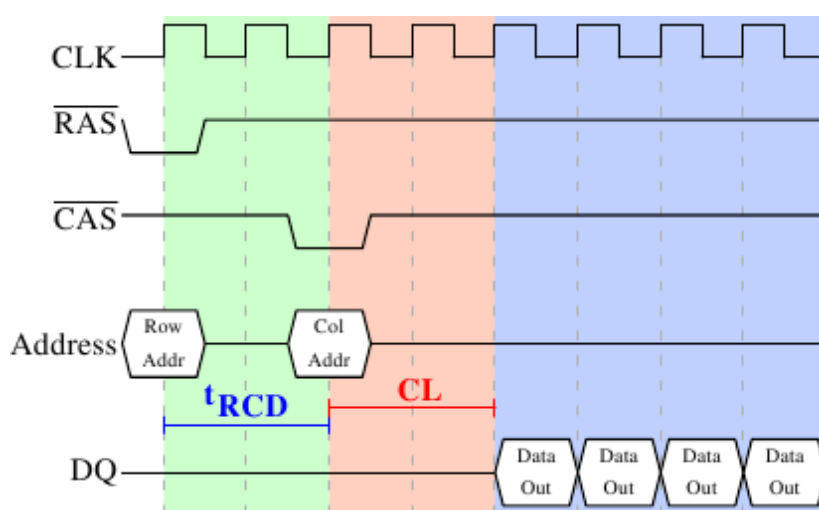

Figure 2.8: SDRAM Read Access Timing
A second bottleneck involves the bus from the Northbridge to the RAM. The exact details of the bus depend on the memory types deployed. On older systems there is only one bus to all the RAM chips, so parallel access is not possible. Recent RAM types require two separate buses (or channels as they are called for DDR2, see Figure 2.8) which doubles the available bandwidth. The Northbridge interleaves memory access across the channels. More recent memory technologies (FB-DRAM, for instance) add more channels.
Figure 2.8 shows the activity on some of the connectors of a DRAM module which happens in three differently colored phases. As usual, time flows from left to right. A lot of details are left out. Here we only talk about the bus clock, **RAS** and **CAS** signals, and the address and data buses. A read cycle begins with the memory controller making the row address available on the address bus and lowering the **RAS** signal. All signals are read on the rising edge of the clock (CLK) so it does not
Now the addressing is complete and the data can be transmitted. The RAM chip needs some time to prepare for this. The delay is usually called $\overline{\text{CAS}}$ Latency (CL). In Figure 2.8 the $\overline{\text{CAS}}$ latency is 2. It can be higher or lower, depending on the quality of the memory controller, motherboard, and DRAM module. The latency can also have half values. With CL=2.5 the first data would be available at the first *falling* flank in the blue area.
Figure 2.8 does not cover the whole cycle. It only shows parts of the full cycle of accessing DRAM. Before a new $\overline{\text{RAS}}$ signal can be sent the currently latched row must be deactivated and the new row must be precharged. We can concentrate here on the case where this is done with an explicit command. There are improvements to the protocol which, in some situations, allows this extra step to be avoided. The delays introduced by precharging still affect the operation, though.